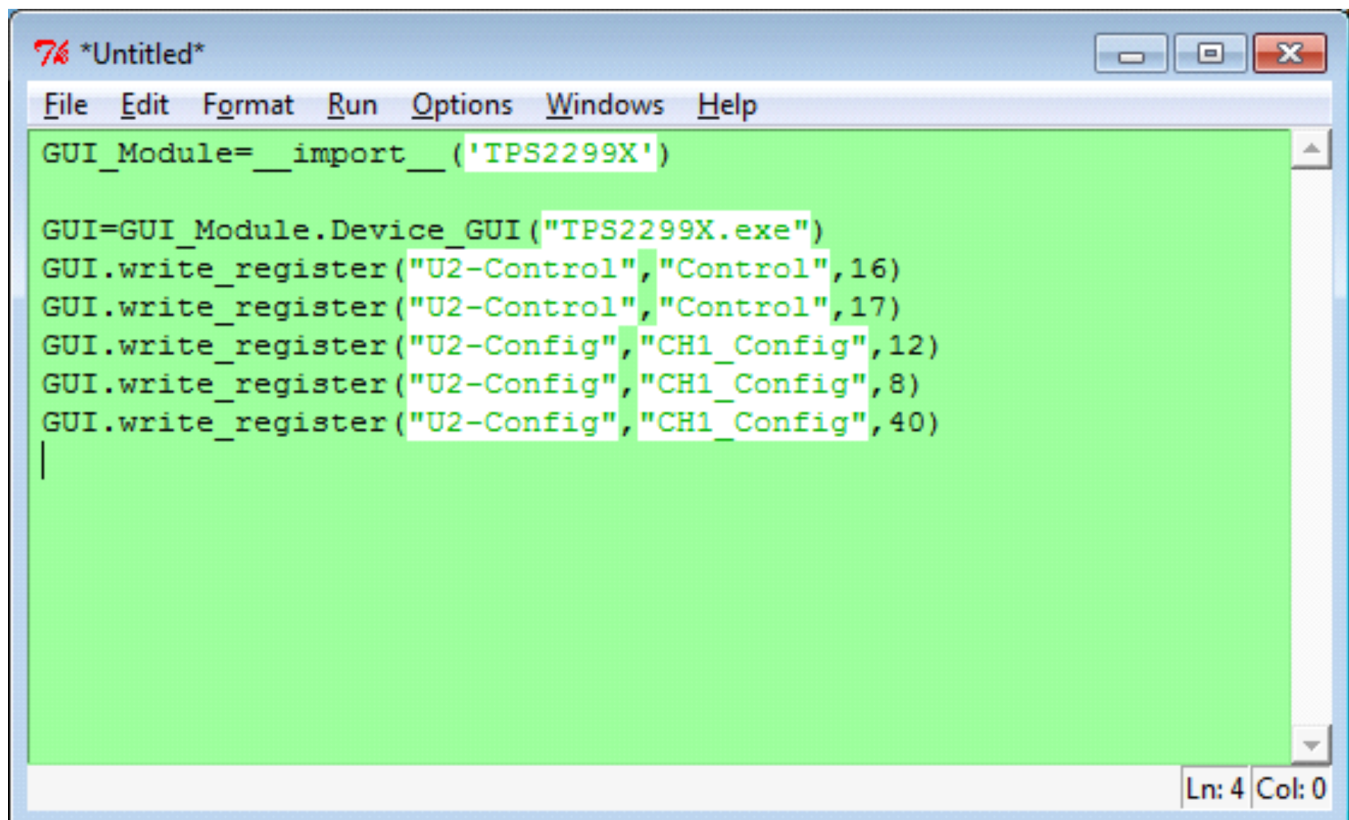

Figure 17. Python Script Window after Recording after Clicking U2 CH1 Controls
- (H) These steps should have been recorded in the Python script GUI, see Figure 17.